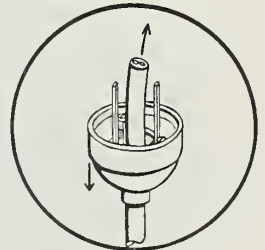

Fig. 2
2. Slip the plug back on the cord. (Fig. 2.)